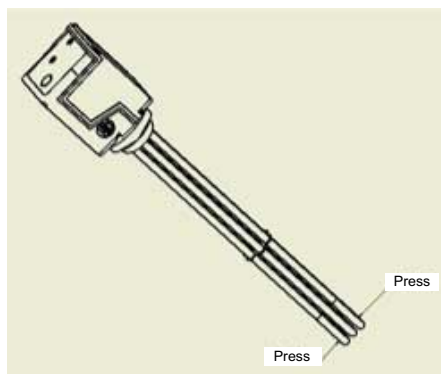

Fig. 1.3: Installing the screw-in heater
- 1) Remove the side panels on the heat pump cover to access the integrated buffer tank. A 1.5 kW heating element is installed in this buffer tank as standard (see Fig. 1.3 on page 3).